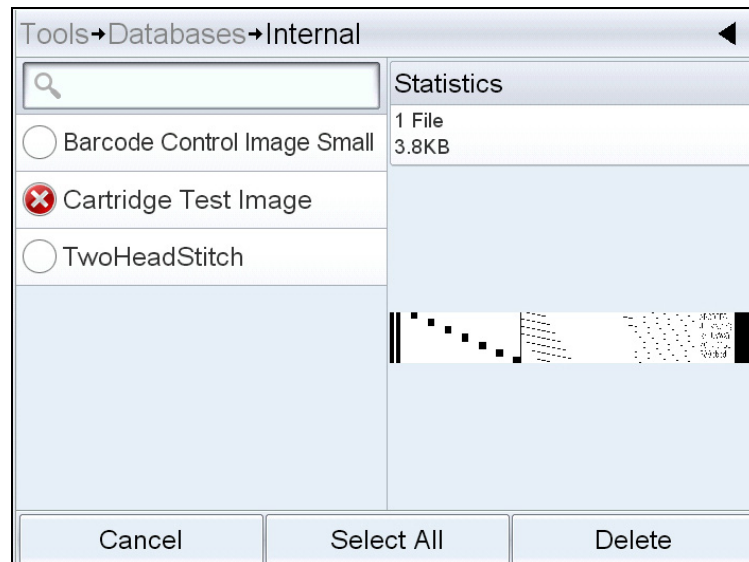

Figure 6-25: Database Delete Window
- 3 Select the required database (internal or external) and touch *Edit* to go to the deletion screen (see Figure 6-25). This page contains a list of all the available print jobs along with details of number and size of the selected Jobs.